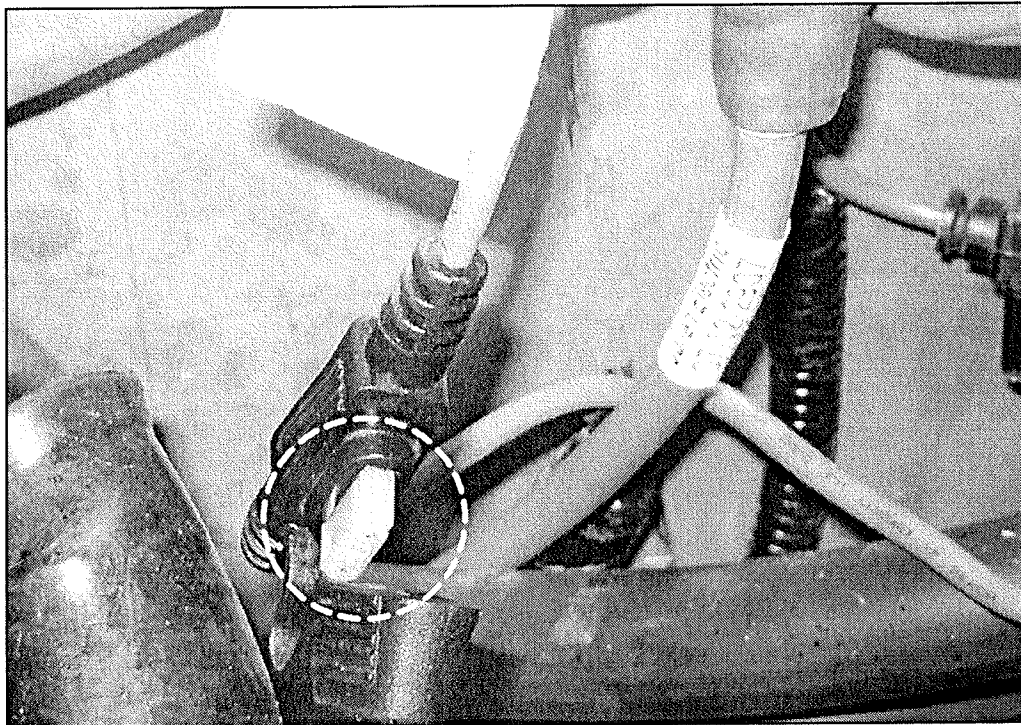

Figure 3.
6. Remove the protective flip – cap. Visually inspect to verify that a 30 AMP fuse is installed (refer to Figure 3).